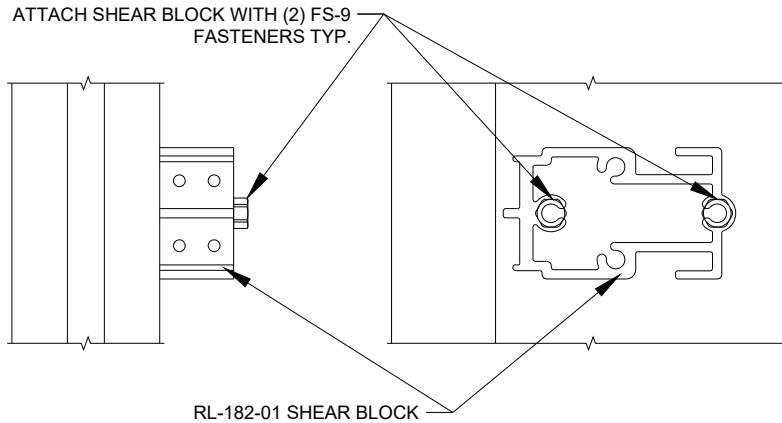

Figure 27: Standard Shear Block Attachment
- 10.1 Attach **RL-182-01** or **WW-276-01** Shear Blocks to Vertical using (2) **FS-9** Fasteners, see *Figure 27*.